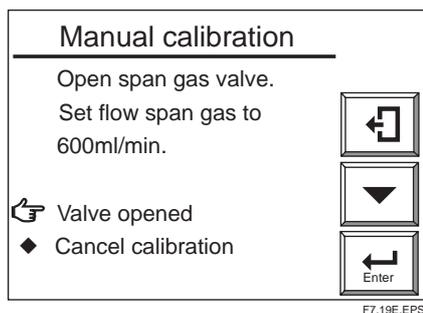
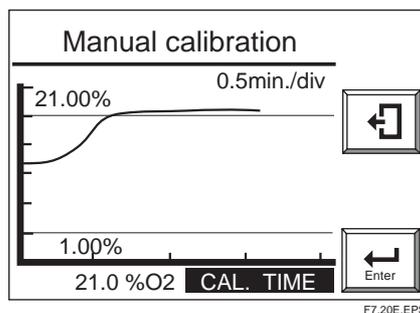

Figure 7.19 Span-gas Flow Display (for Manual Calibration)
Figure 7.20 Manual Calibration Trend Graph
- (3) Follow the display message in Figure 7.19 to turn on span gas flow. Open the span-gas flow valve of the Flow Setting Unit by loosening the valve lock-nut and slowly turning the valve shaft counterclockwise to set the span gas flow at 600 ± 60 ml/min. Use the calibration gas flowmeter to check the flow.
- (4) If “Valve opened” is selected as in Figure 7.19, an oxygen-concentration trend graph (with the oxygen concentration being measured) appears (see Figure 7.20). The CAL TIME in the bottom area of the panel flashes. Observe the trend graph and wait until the measured value stabilizes in the vicinity of 21 percent on the graph. At this point, calibration has not yet been executed, so even though the measured value is above or below 21 percent, no problem occurs.